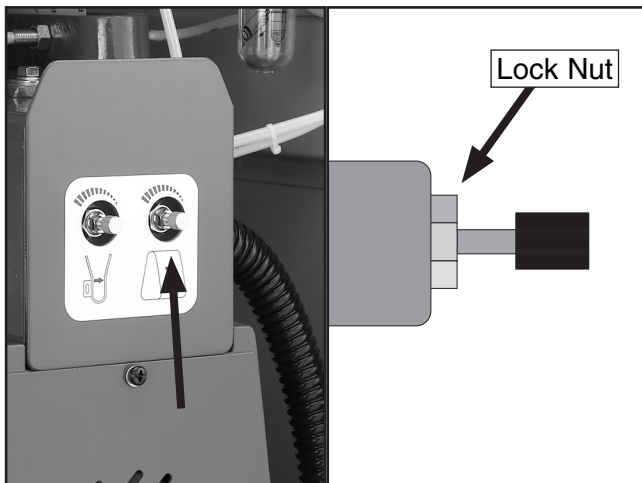

Figure 29. Speed control adjustment knob.
1. Loosen the lock nut on the speed control adjustment knob (**Figure 29**).